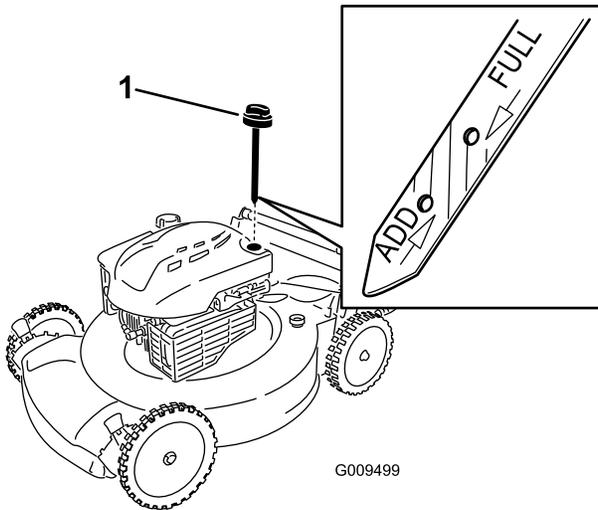

Figure 5
1. Remove the dipstick (Figure 5).
2. **Slowly** pour oil into the oil fill tube until the oil level reaches the **Full** line on the dipstick (Figure 5). **Do not overfill.** (Max. fill: 20 oz. (0.59 l), type: SAE 30 detergent oil with an API service classification of SF, SG, SH, SJ, SL, or higher.)